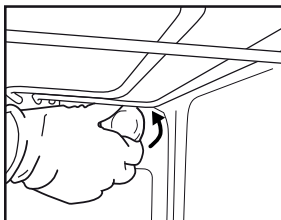
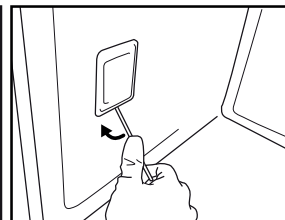

Fig. 6
Fig. 7
2. Unscrew the lamp cover (Fig. 6), replace the lamp (see note for lamp type) and screw the lamp cover back on (Fig. 7).
3. Use a screwdriver to prise off the lamp cover (Fig. 7).